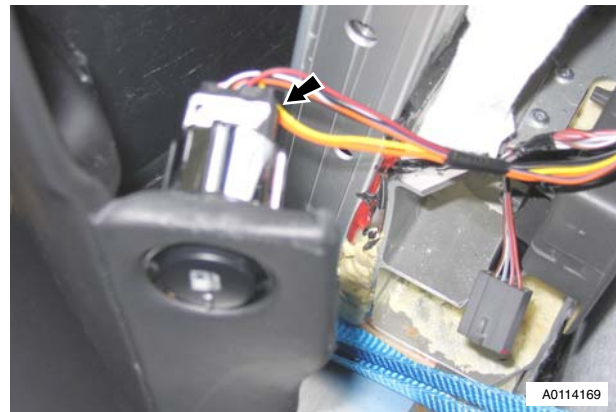

Figure 2
- Disconnect multiplug from fuel flap release switch, remove trim panel (see Figure 2).